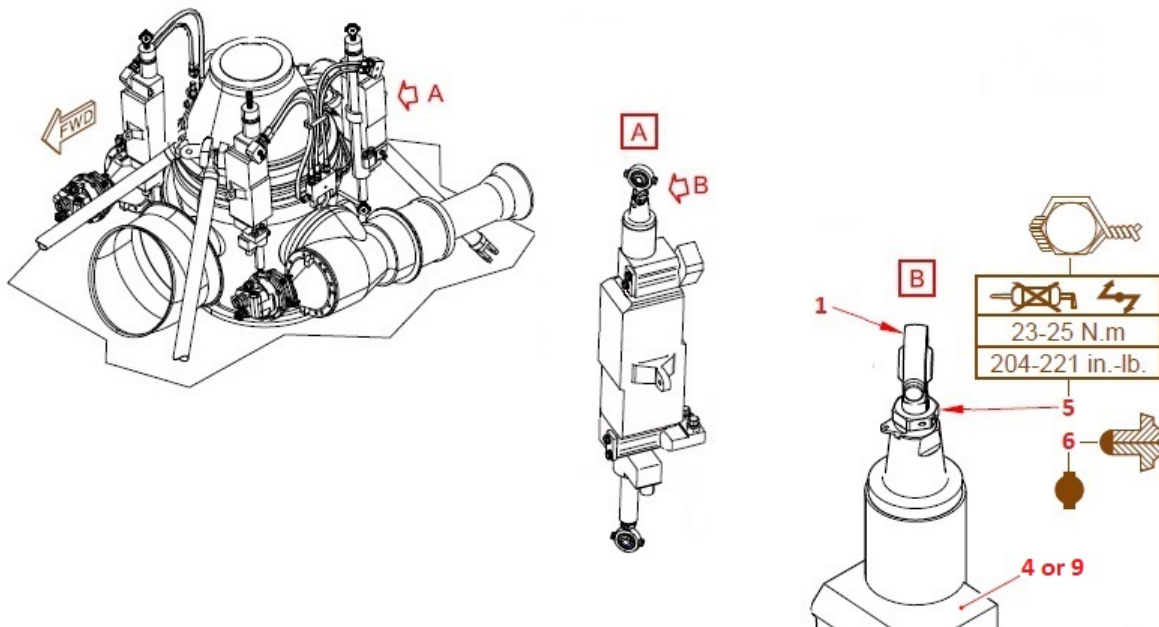

Figure 1
- 4.2. Do a check of the nut (5) tightening torque of the Ball bearing end 1211351P (1) of the Main rotor servo-control SC8037-1 (4) or Main rotor servo-control SC8037 (9) (Figure 1). Refer to Work Card Assembly by screws and nuts - Joining MTC 20-02-05-404.
- Torque until the marks align but do not torque to more than the max torque value given in figure 1
- Use Lock-wire CM 776 to safety the nut (5) with the nut retainer (6).
- The upper end of the Main rotor servo-control SC8037-1 (4) or Main rotor servo-control SC8037 (9)
- The nut (5)
- The nut retainer (6)
- Torque the nut (5) to the nominal values given in Figure 1.